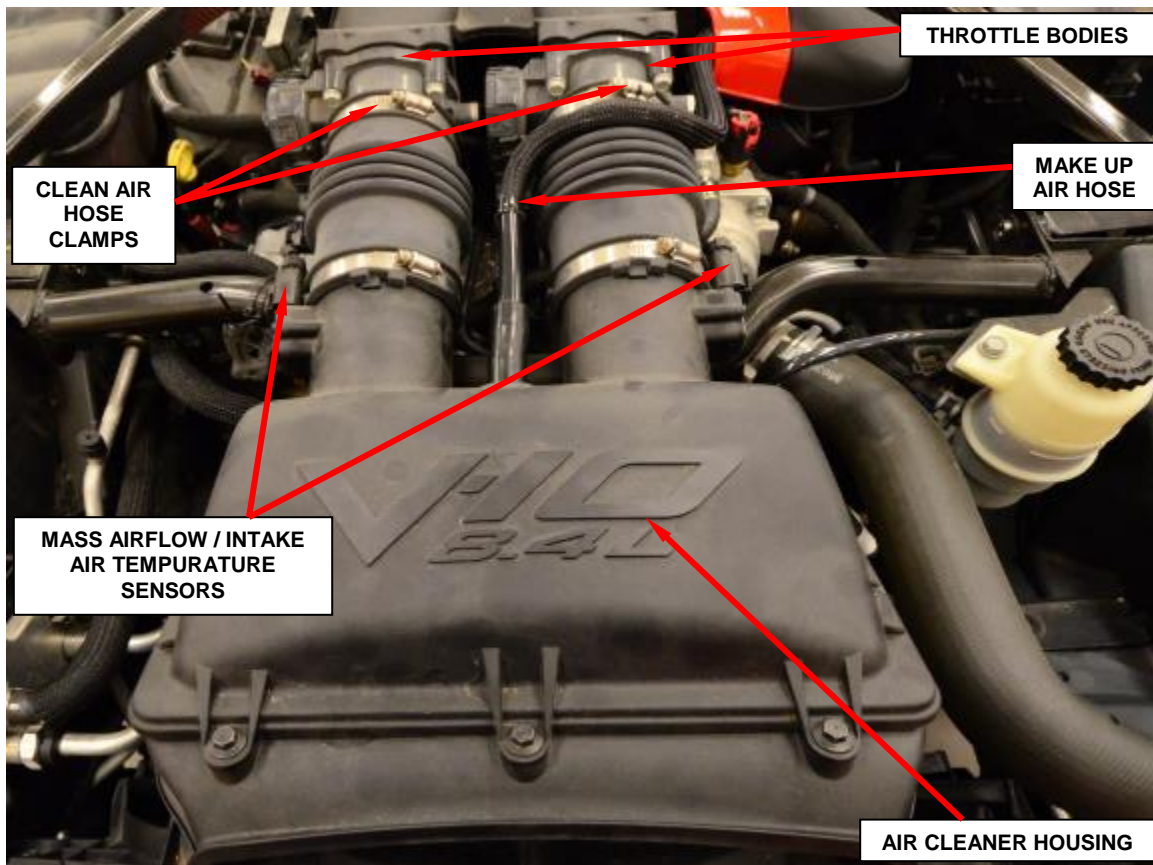

Figure 11 – Air Cleaner Housing
- a. Disconnect the Make Up Air hose from the air cleaner housing (Figure 11).
- b. Disconnect the mass air flow/intake air temperature sensors electrical connectors (Figure 11).
- c. Loosen the clean air hose clamps from the throttle bodies (Figure 11).